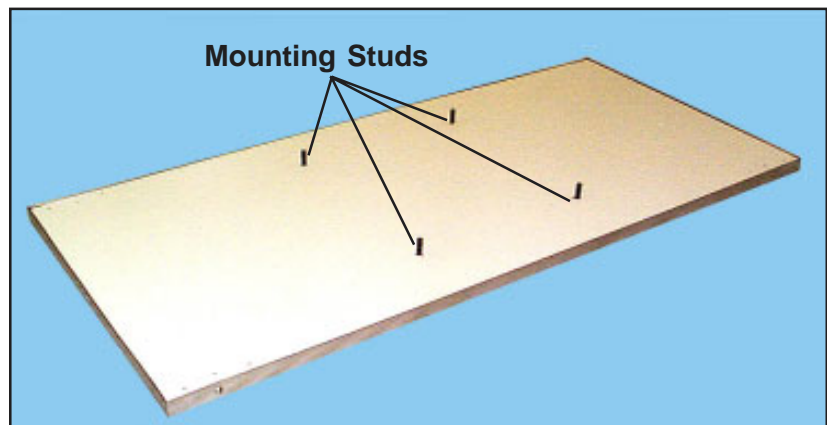

Figure 47. Underside of Exam Top Showing Studs
1. With a 1/2 in. wrench, remove the four nuts and washers from the mounting studs under the table top (Figure 47).
1. Place the table top on the unit so that the mounting studs under the top enter the matching holes on the unit frame (Figures 47, 48, and 49).